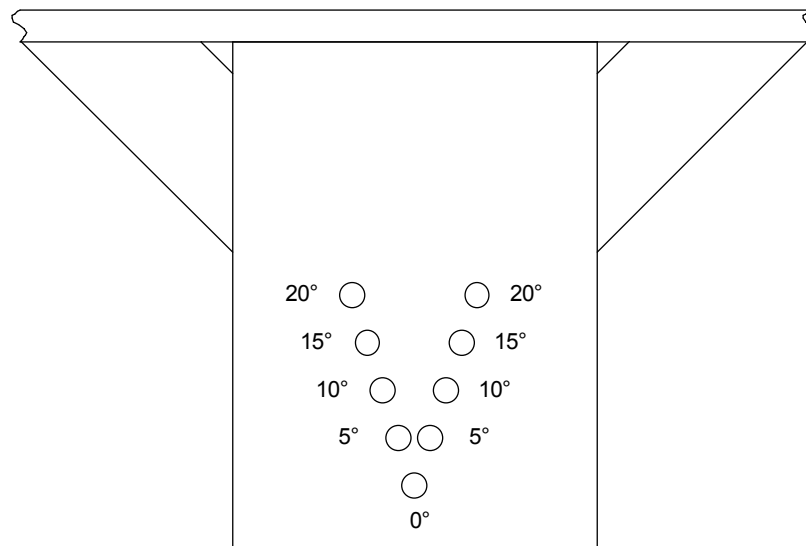

Figure 9-6 Horizontal Aiming Index.
6. Orient the hole at the bottom of the V pattern in the direction the beam should point (horizontally) and securely tighten the locking ring to the Baseplate. See Figure 9-6.
1. Loosen the locking hardware and reposition the indexing hardware for the final positioning. See Figures 9-6 and 9-7.